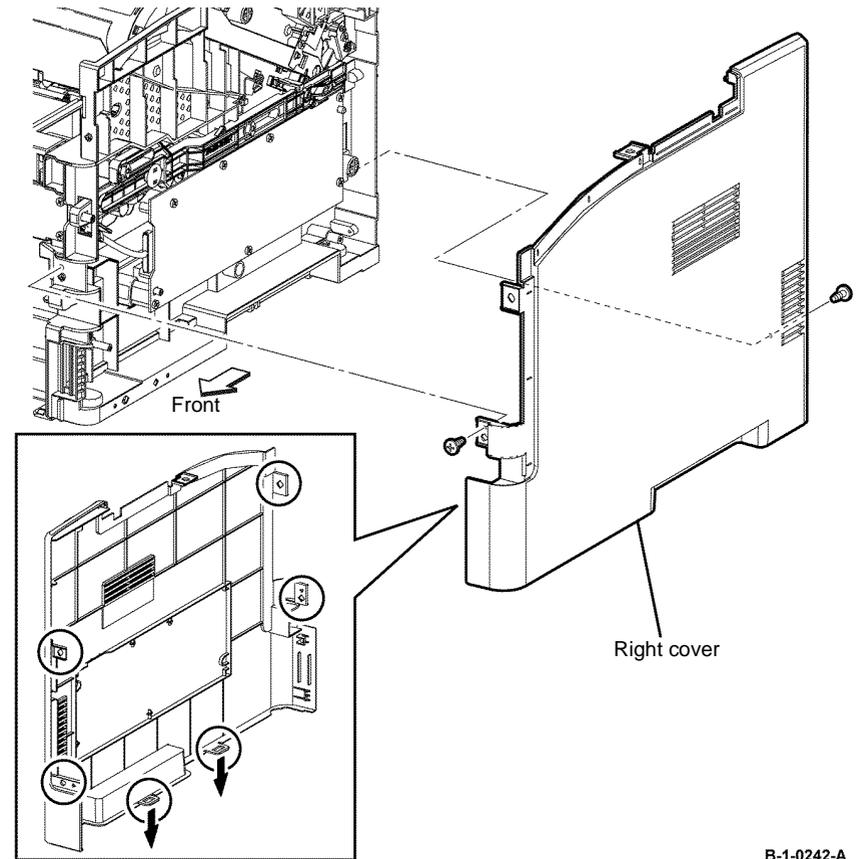

Figure 1 Right cover removal
7. Remove two screws (silver, tapping, 8mm) that fixes the right cover, Figure 1.
8. Release four holes on the right cover from the bosses on the printer. Release two hooks, then remove the right cover, Figure 1.